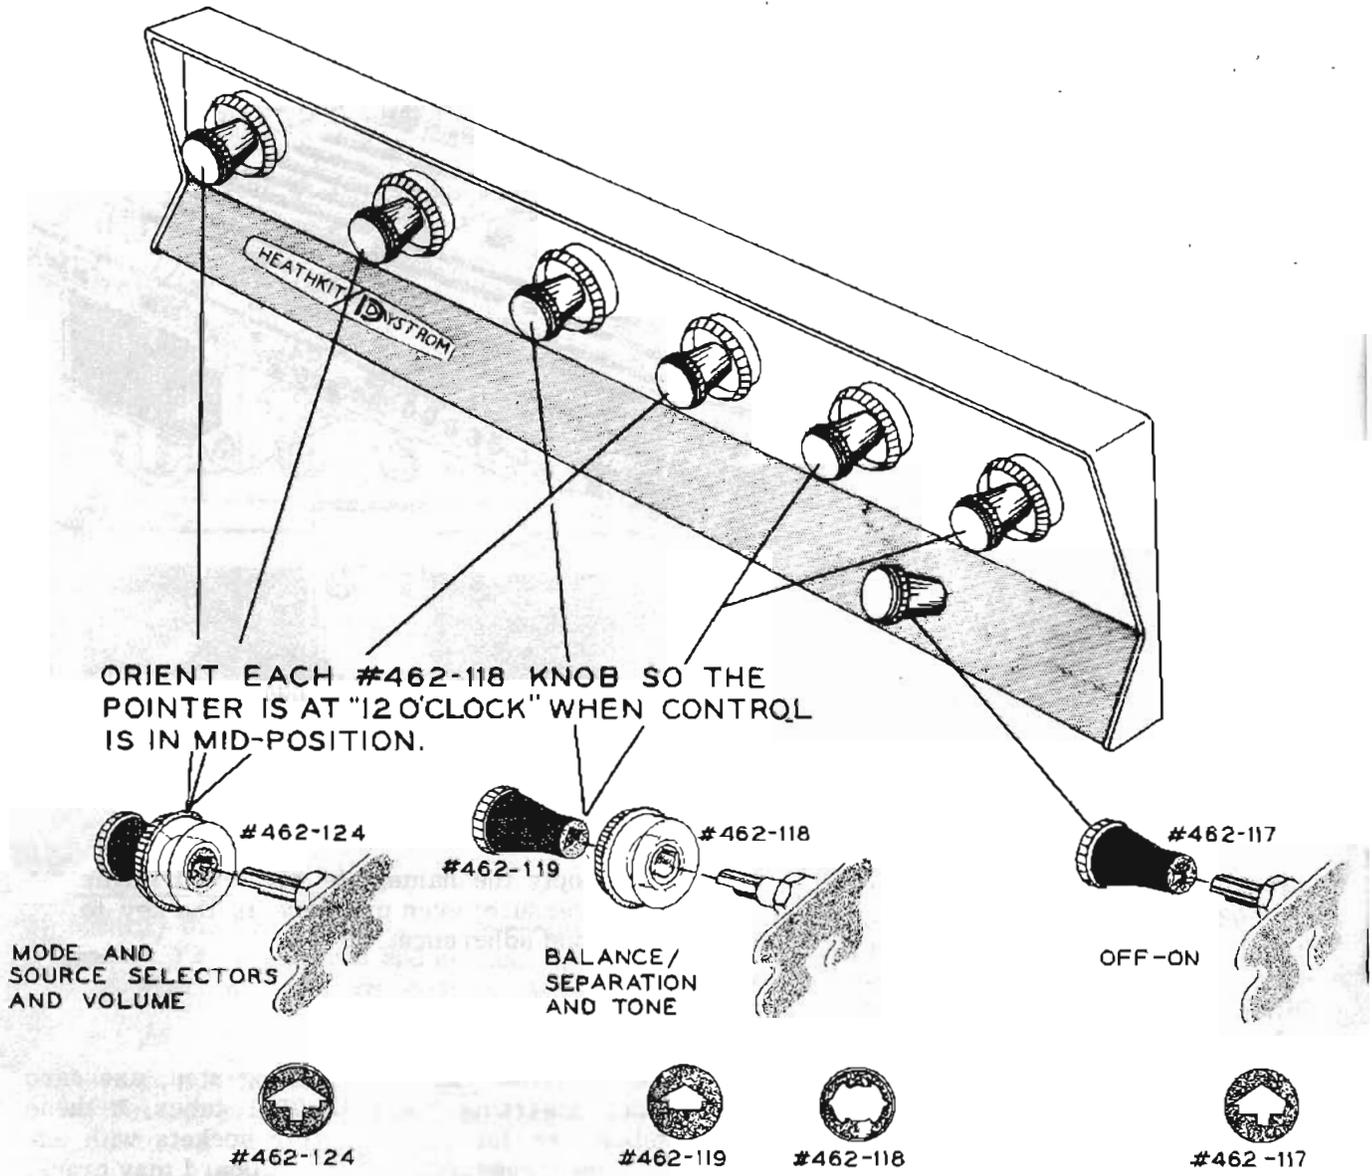

Figure 23
- () Refer to Figure 23 and install all ten knobs.